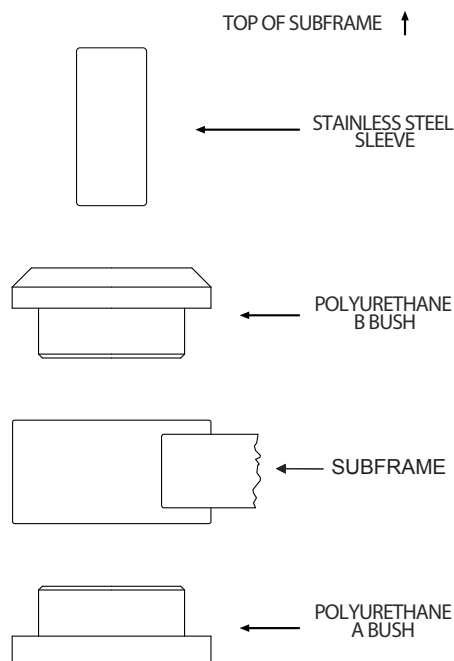

Figure 1: Assembly exploded view
4. Fit polyurethane A bush into bottom side of the subframe bore. As shown in *Figure 1*.
5. Fit polyurethane B bush into top side of the subframe bore. As shown in *Figure 1*